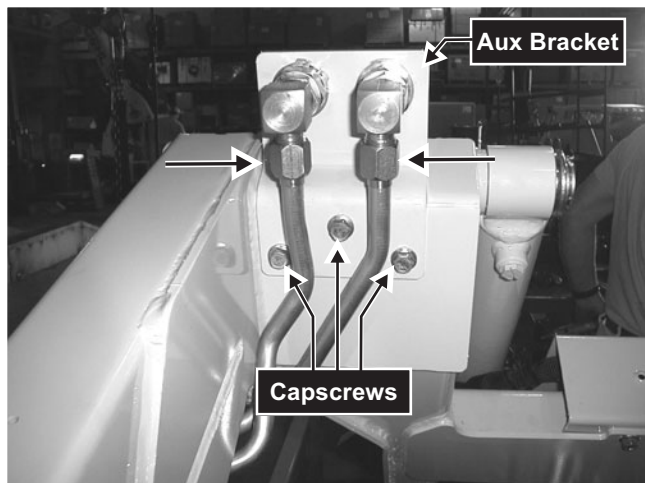

Fig. 4-31 Location of auxiliary hydraulic tubes connected at back of auxiliary coupler bracket to 90° elbows.
7. With three capscrews, bolt in auxiliary coupler bracket on front of left liftarm. **Fig. 4-31**